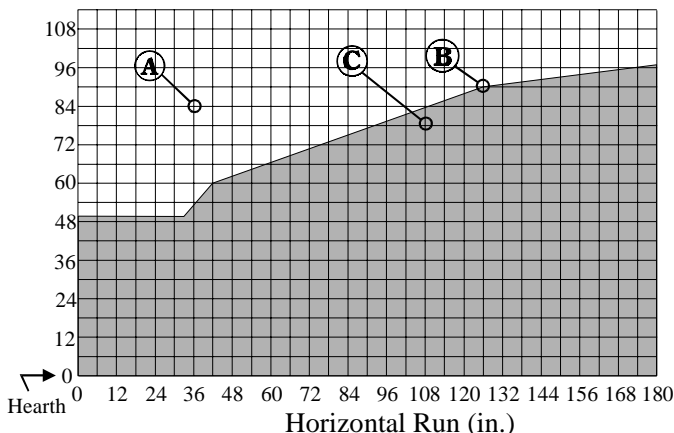

Figure 18a. ME38-DV-2 Rear Vent Venting Graph
- your vent run must fall within the limits set by Figure 18a
Measure the vertical height from the fireplace hearth to the centre of the termination and the horizontal run from the fireplace flue collar to the wall flange of the termination. Plot on the Venting Graph (Fig. 18a) with an 'X'.
**NOTES:** All dimension lengths for vertical or horizontal runs are measured from center of the vent pipe. Venting runs *must* fall within the limits set by the venting graph (see Figure 18a).